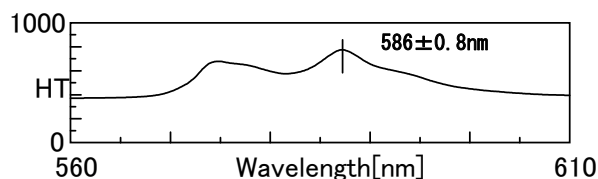

Figure. 4.9 HT data for neodymium glass
- (1) If the main unit is mounted in the optional cabinet, the wavelength cam and wavelength lever will be visible from below, as shown in Fig. 4.9. If the main unit is mounted on a table or bench, lay the instrument across two tables or benches to permit access to the adjustment screws.